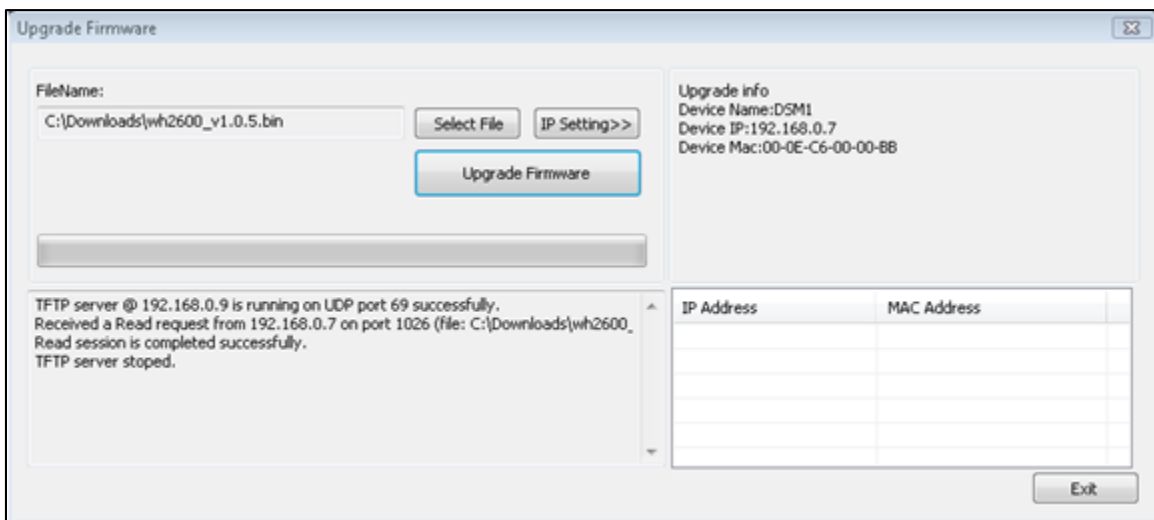

Figure 30
6. Once the firmware upgrade is complete, the dialog box will display **Read session is completed successfully**, as shown in Figure 30.